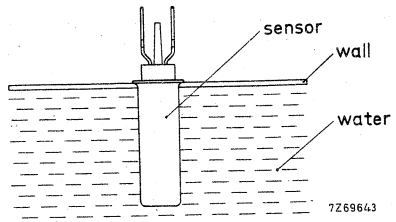

Fig. 2.
** The temperature gradient is the difference between the liquid (water) temperature and the temperature measured by the sensor per degree difference between liquid and connector temperatures. This difference is caused by the heat conduction through the connectors. Measuring circuit is shown in Fig. 2.